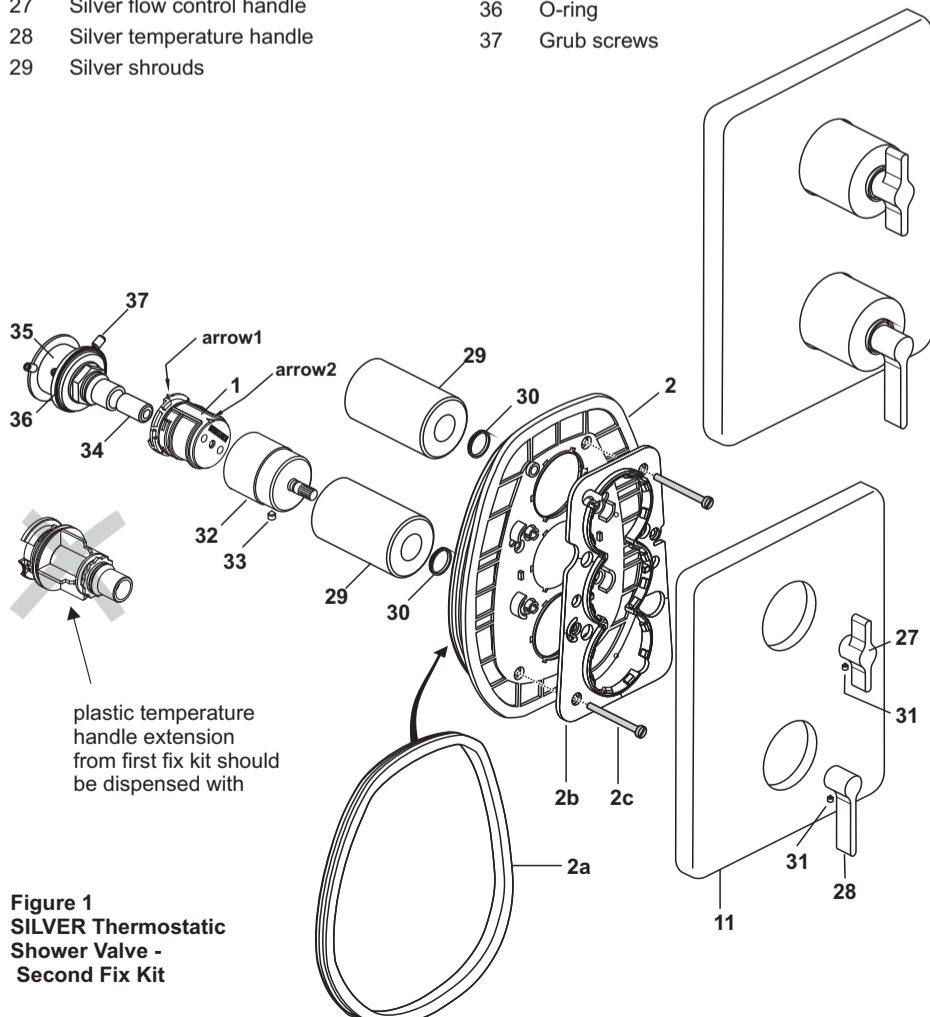

Figure 1
Please refer to the exploded drawing below Fig 1
Ensuring that arrow1 (fig 1) is at 12 o'clock push the handle carrier (1) onto the brass extension (35) so that it locks in position.